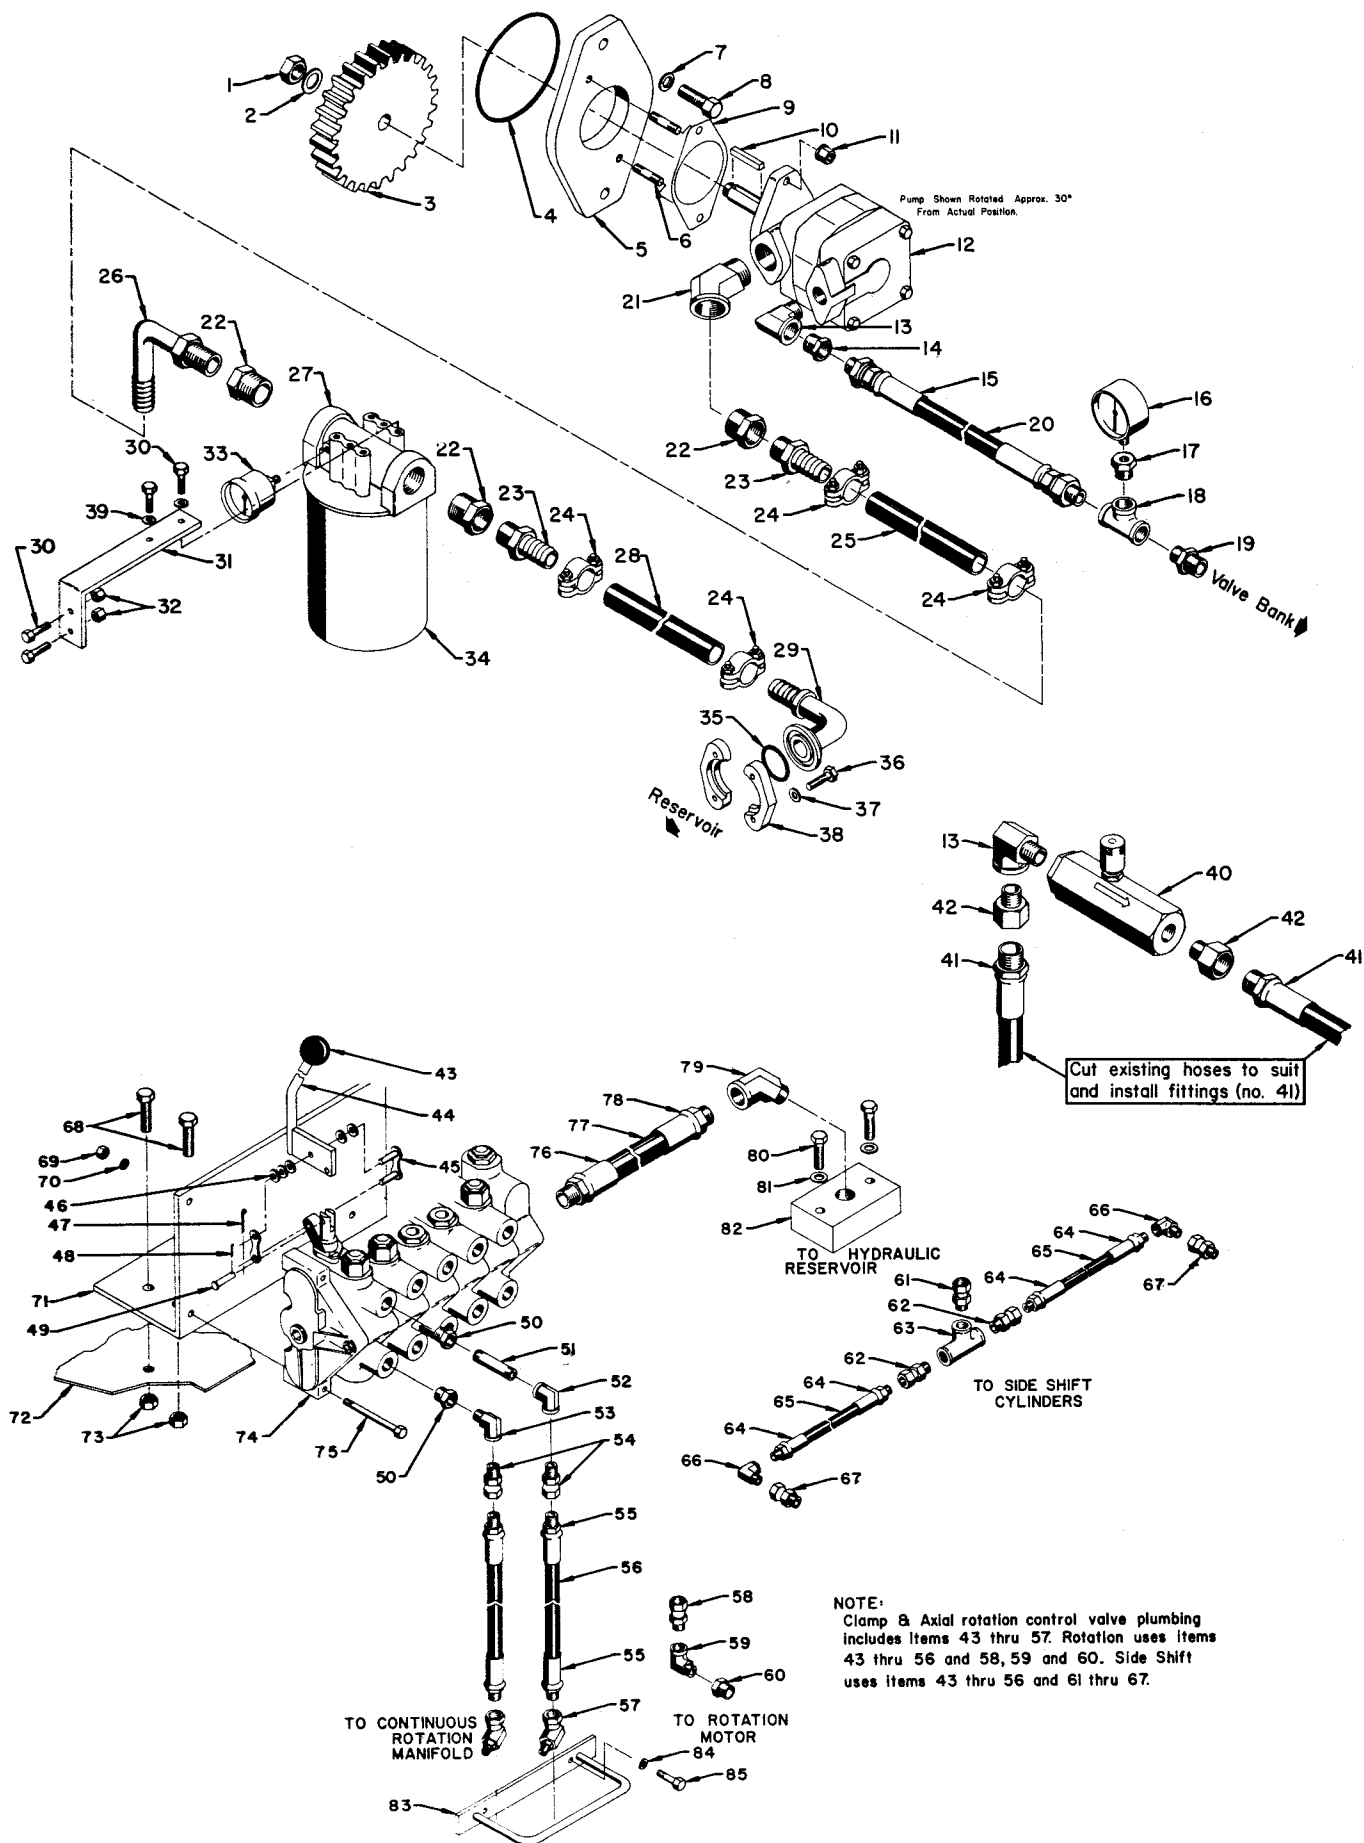

Figure F-21. Hydraulic Installation Kit - 966 Caterpillar Loader (Part Number 91702748)
1. Remove the cover on the timing gear housing and install the pump mounting adapter (Figures F-21 & G-1). Install the pump with gasket.
2. Locate and install the hydraulic filter bracket. Drill two (2) 5/16" diameter holes using the bracket as a template. (Figures F-21 & G-2). Install the filter.
4. Remove the outermost cover on the front side of the hydraulic reservoir near the top of the reservoir and install the adapter block (Figures F-21 and G-3). To install the block, the plate inside the reservoir must be removed and drilled to 3/4". To remove the inside plate, remove the reservoir cover and hold the plate with your hand while removing the outside cover. Install the adapter block using the bolts and washers provided.